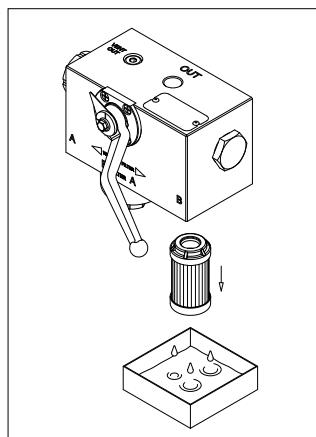

fig. 22
- (Fig. 22) Pull the filter element out